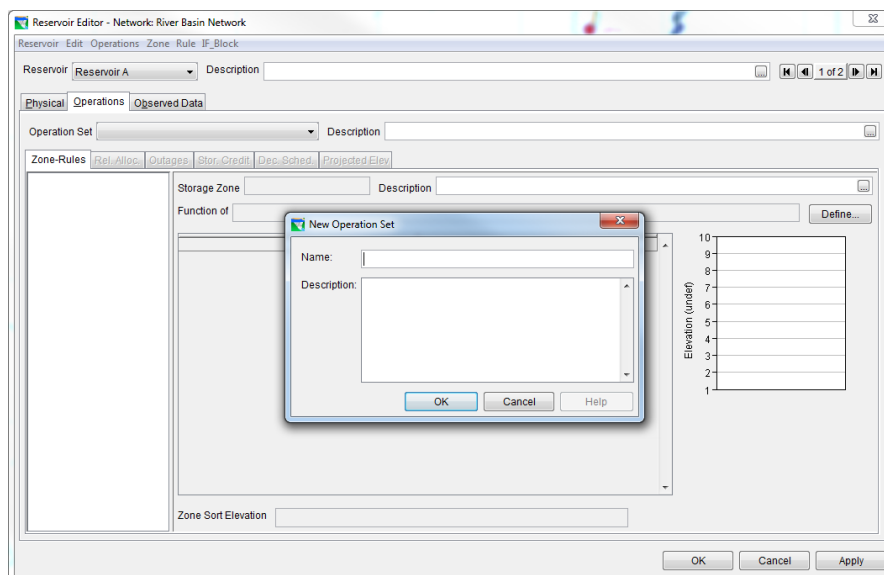

Figure 29: New Operation Set
After adding the reservoir physical properties, add the operational information via the **Operations** tab of the Reservoir Editor. When the **Operations** tab is initially chosen, a screen similar to Figure 29 will appear. A new operation data set must be created before operations data can be entered [Section 10.2.1].
5. In the Alternative editor, select an Alternative. On the **Operations** tab, select an **Operation Set** for each reservoir [Section 13.5]. This can be accomplished in the Operation Set column by selecting (for each Reservoir) the operation set from the list, as shown in Figure 29.